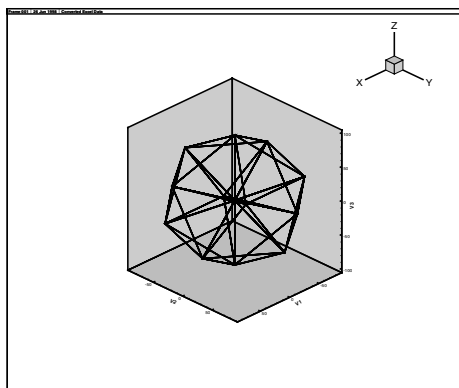

Figure 6-12. Excel spreadsheet **fe1.xls** 3D Cartesian plot.
11. The initial plot is 2D Cartesian, which you can convert to 3D Cartesian for a full view of the finite-element volume (Figure 6-12).